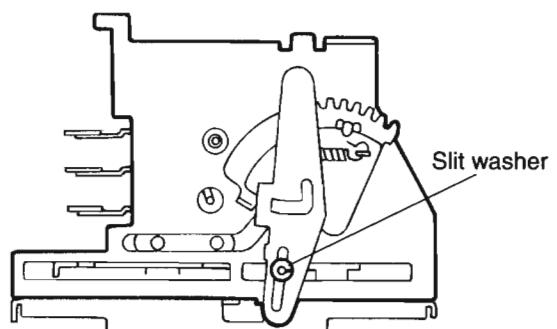
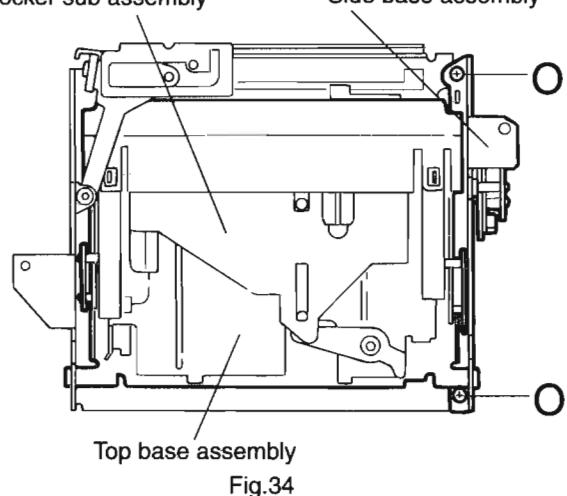

Fig.33
Fig.34
4. Remove the two screws O attaching the Side base assembly (see Fig.34) and the Slit washer on the side (see Fig.33). Remove the Stocker sub assembly and Side base assembly from the Top base assembly.